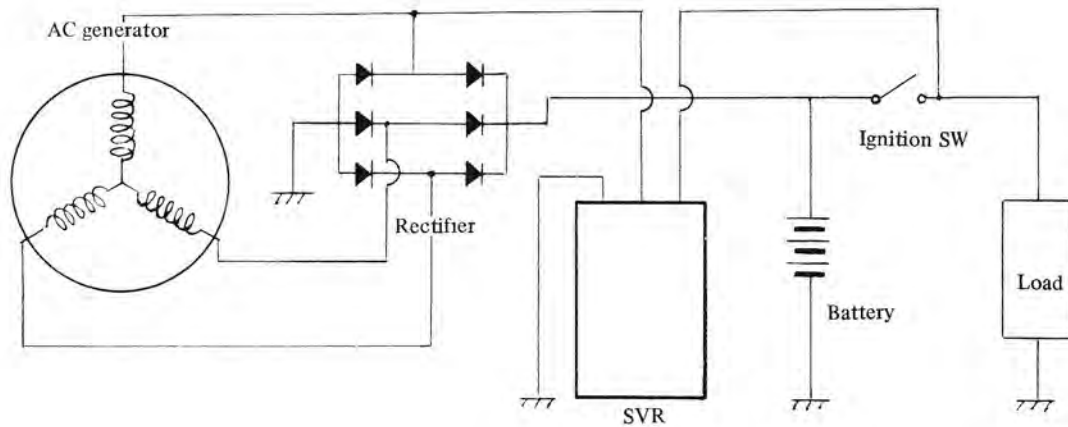

Fig. 5-17
- (1) The voltage regulator in the A series is called a silicon voltage regulator (S V R ) and it works to control the terminal voltages of the AC generator under the set value (15.5V+0.5V). The wiring diagram is shown in Fig. 5-17.